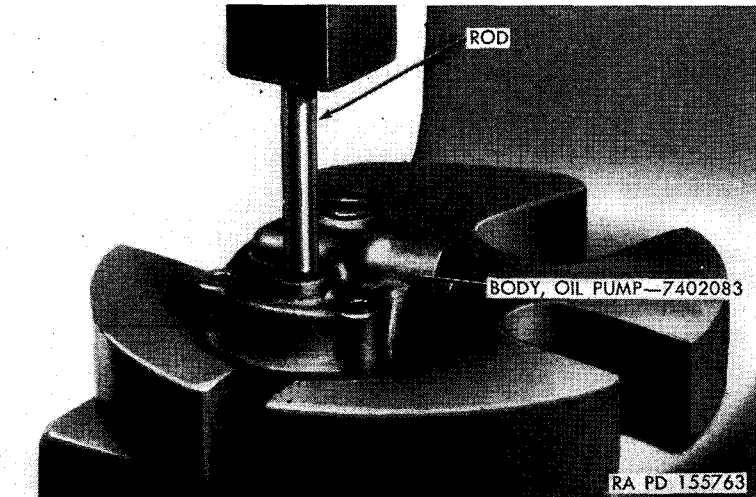

Figure 53. Pressing driven-gear shaft from oil-pump body.
d. Rest oil-pump body on bed of press and press the driven-gear shaft from oil-pump body (fig. 53).